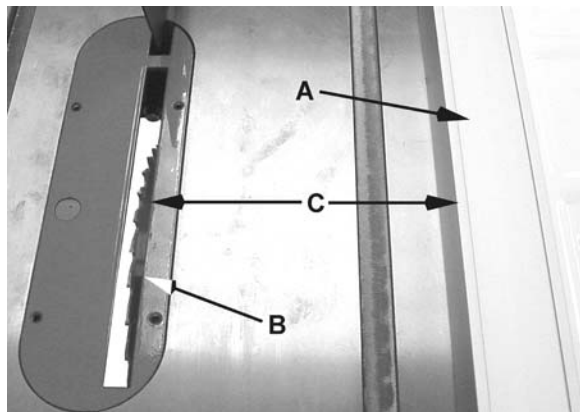

Figure 33
The rip fence (A, Fig. 33) should be set for the width of the cut (C, Fig. 33) by using the scale on the front rail, or by measuring the distance between blade (B) and fence (A). Stand out of line with saw blade and workpiece to avoid